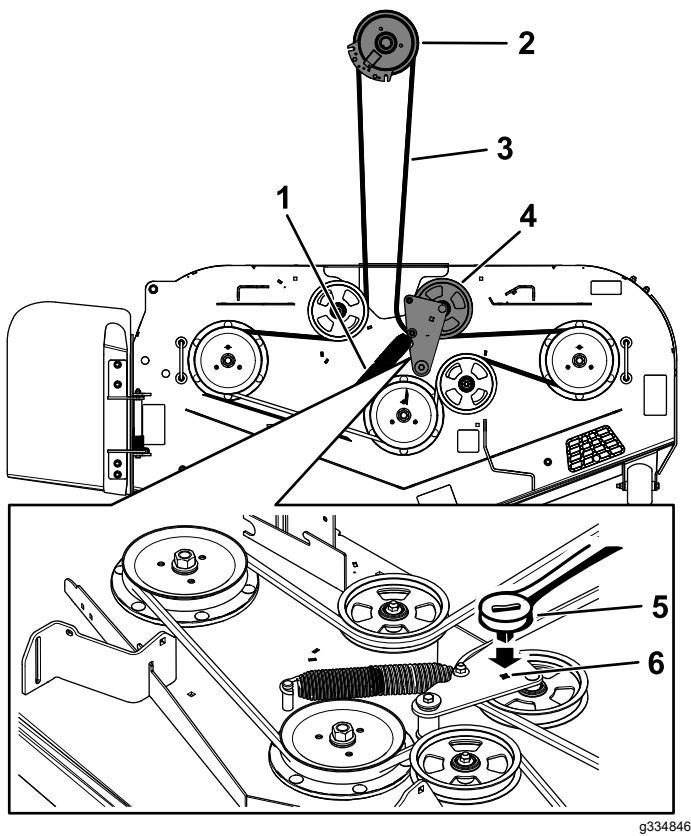

Figure 60
8. Use a 3/8-inch ratchet in the square hole in the idler arm to remove tension on the idler spring (Figure 60).
10. Remove the belt guide on the spring-loaded idler arm (Figure 60).
12. Install the new belt around the mower pulleys and the clutch pulley under the engine (Figure 60).
13. Install the belt guide on the idler arm (Figure 60).
14. Using the 3/8-inch ratchet in the square hole, install the idler spring (Figure 60).